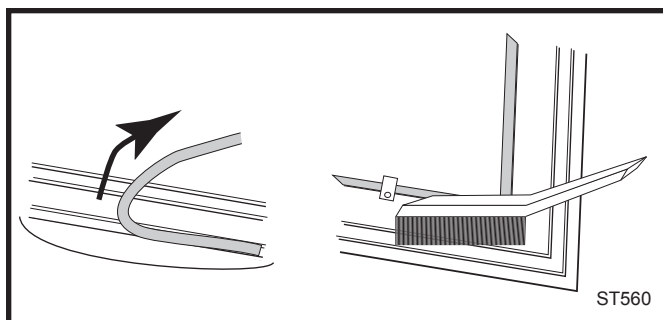

Fig. 39 Remove gasket then clean channel with wire brush.
1. Remove the existing gasket by grasping an end and pulling firmly. (Fig. 39)
2. Use a wire brush or the tip of a screwdriver to clean the channel of any remaining cement or bits of gasket. Remove stubborn deposits of cement with a cold chisel if necessary. (Fig. 39)